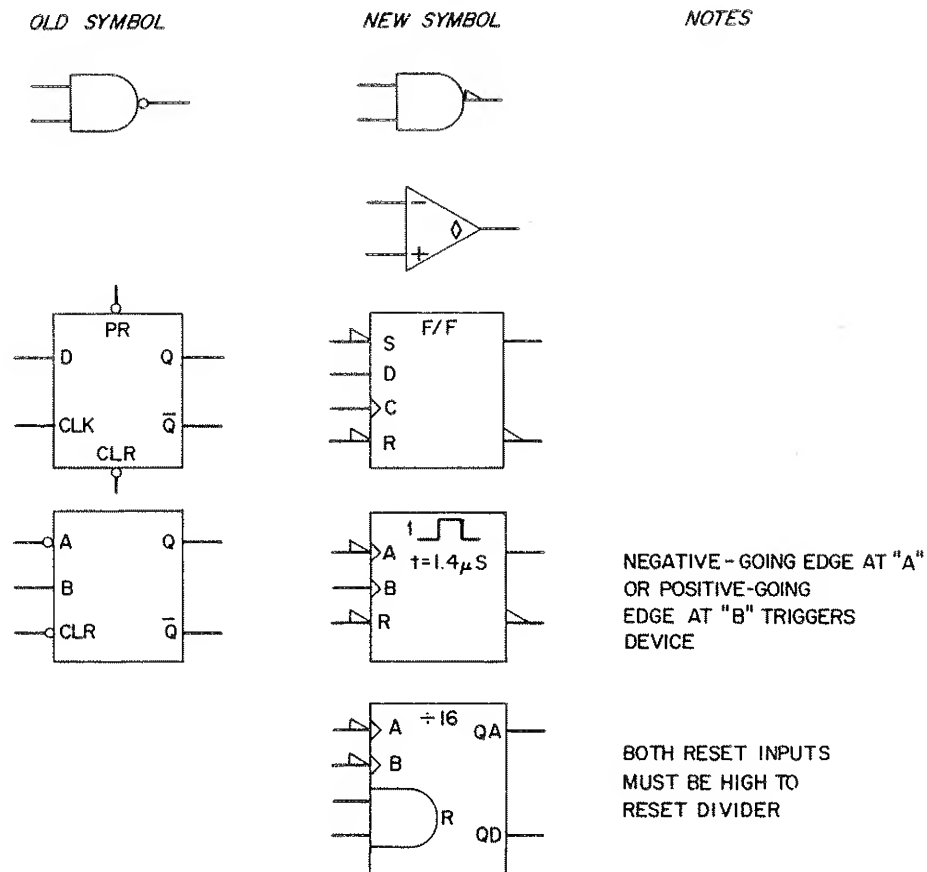

Figure 7-7. Logic Symbols and Definitions
e. Logic symbols diagram (Figure 7-7), illustrating the logic symbols used on the schematic.